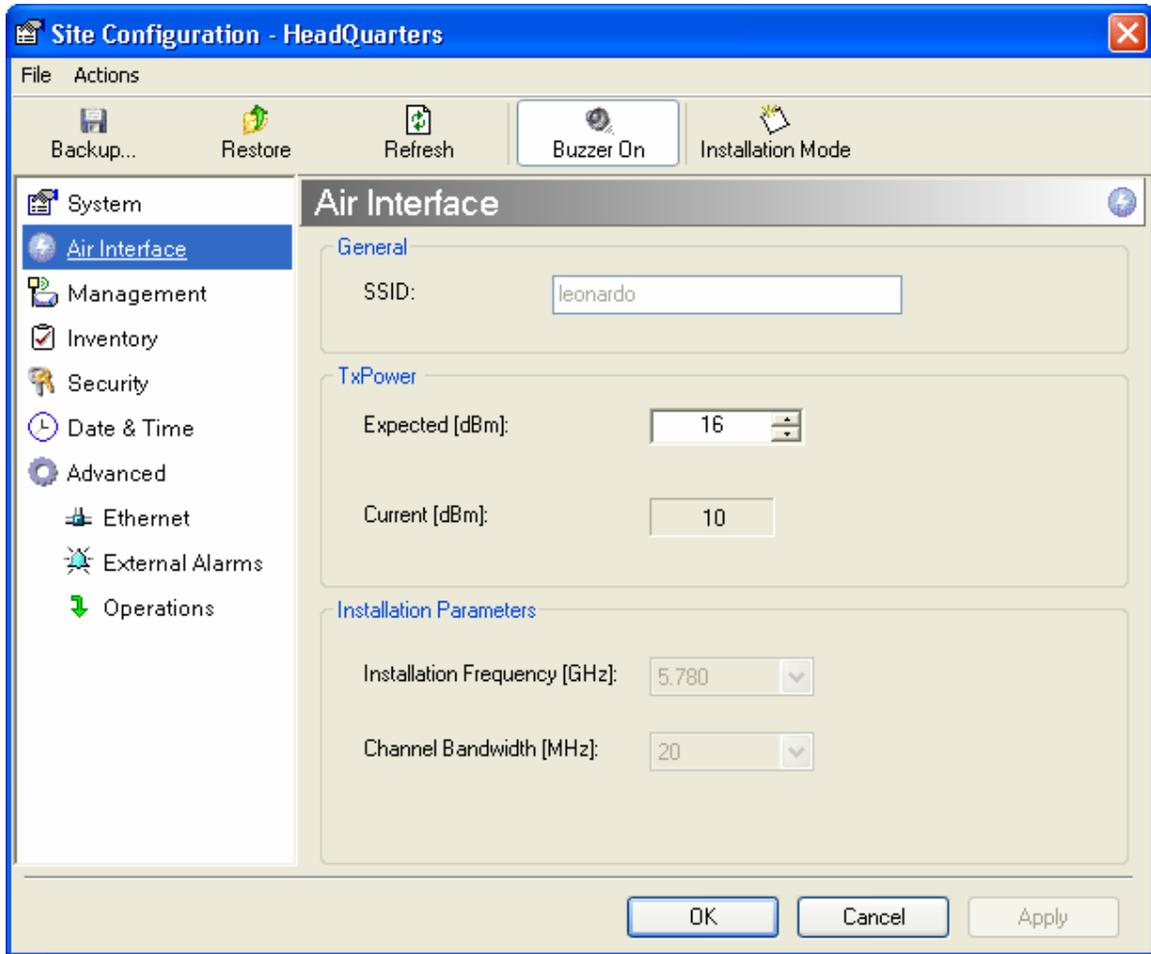

Figure 4-13. Changing the Transmit Power
3. Select Air Interface. (See *Figure 4-13*)